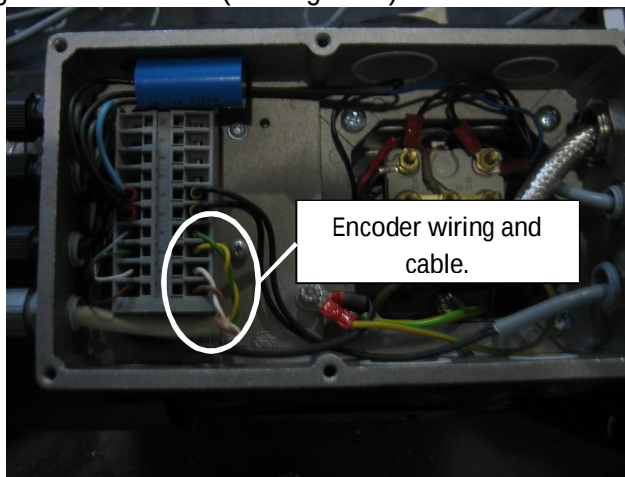

Figure 2
2. Remove the existing encoder cable. (See Figure 2).